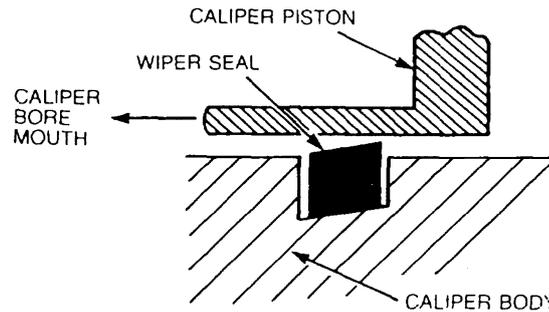

Figure 138 Fluid Seal Installation
- b. Insert the seal into the groove (Figure 138) using the fingers only and ensure that the seal is properly seated.